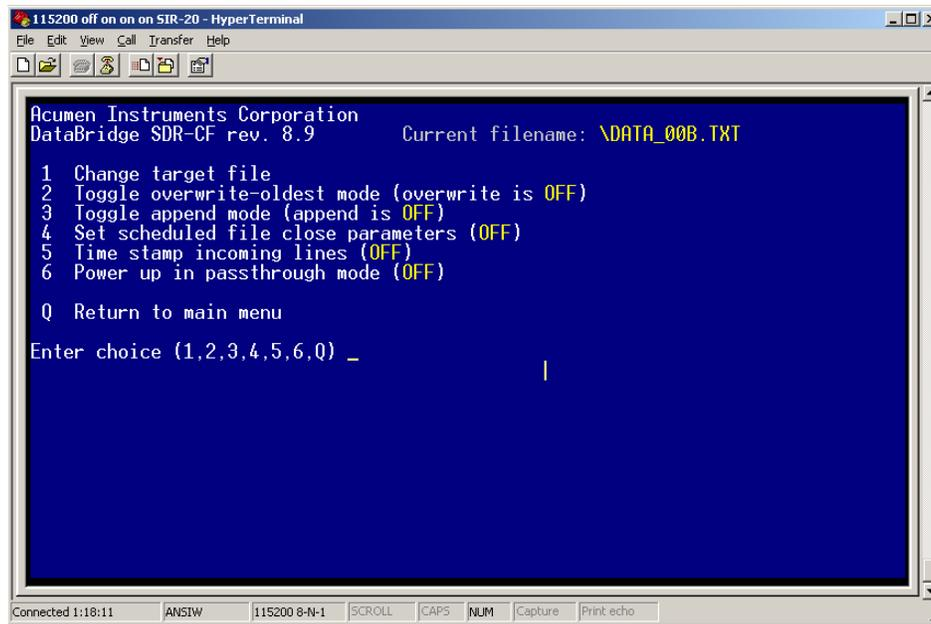

Figure 2: Recording Parameters menu.
- 4 Press **6** to view the Recording Parameters menu (Figure 2):